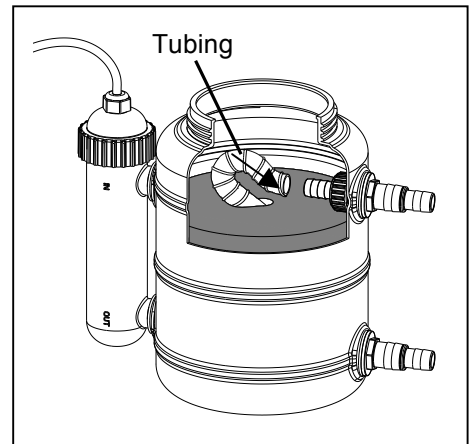

Fig. 6
- Connect tubing to the small adapter. Fig. 6